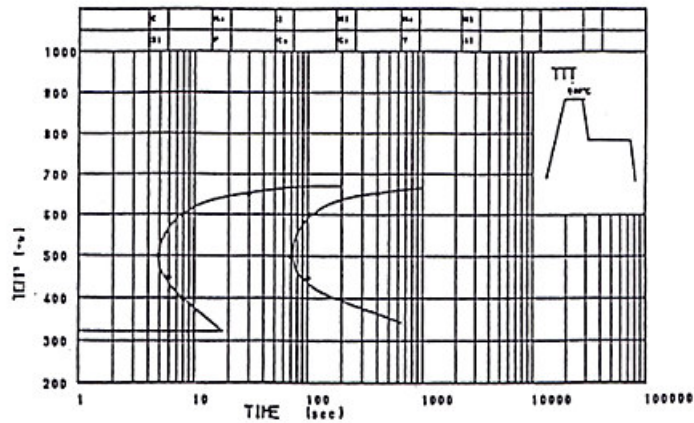

Fig. 5 TTT diagram
2) 「TTT」 diagram … Fig. 5
- ① Read out maximum 12 curves of TTT data from 「TTT」 file made under the item 3) in 3.3.1 and output, on display screen, transformation temperature on 「Time – Temperature」 co-ordinate.
- ② Make TTT diagram by similar operation to the item 1). After outputting to printer, save whole TTT diagram in 「TTT」 file.